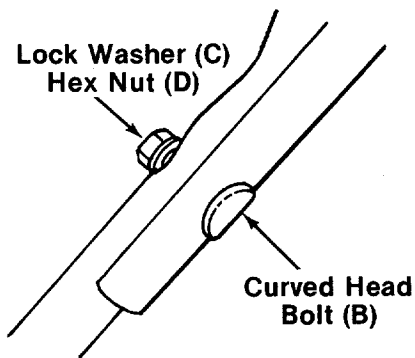

FIGURE 3.
- Place upper handle in position over lower handle. Control housing should be on the **left** side of the handle. Secure upper handle with two curved carriage bolts (B), lock washers (C) and hex nuts (D). See figure 3.